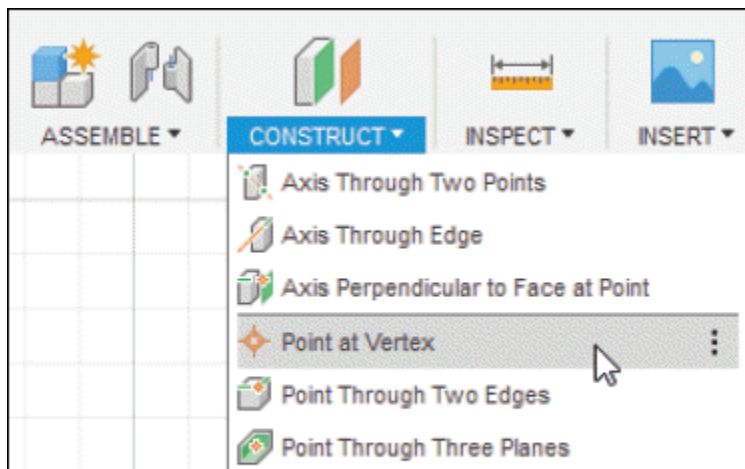
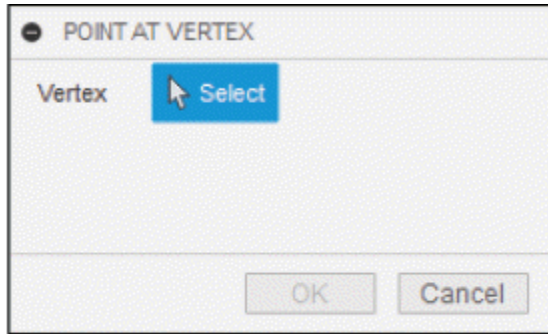

Figure-122. Point at Vertex tool
Figure-123. POINT AT VERTEX dialog box
- Click on the **Point at Vertex** tool of **CONSTRUCT** drop-down from **Toolbar**; refer to Figure-122. The tool will be activated and **POINT AT VERTEX** dialog box will be displayed; refer to Figure-123.